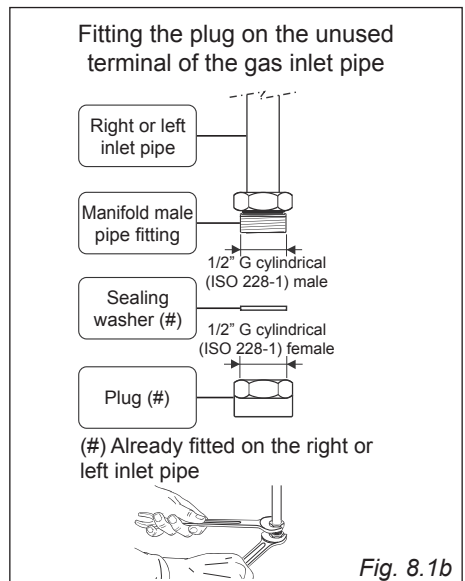

Fig. 8.1b
- The unused inlet pipe must be closed off with the plug and sealing washer supplied (fig. 8.1b).